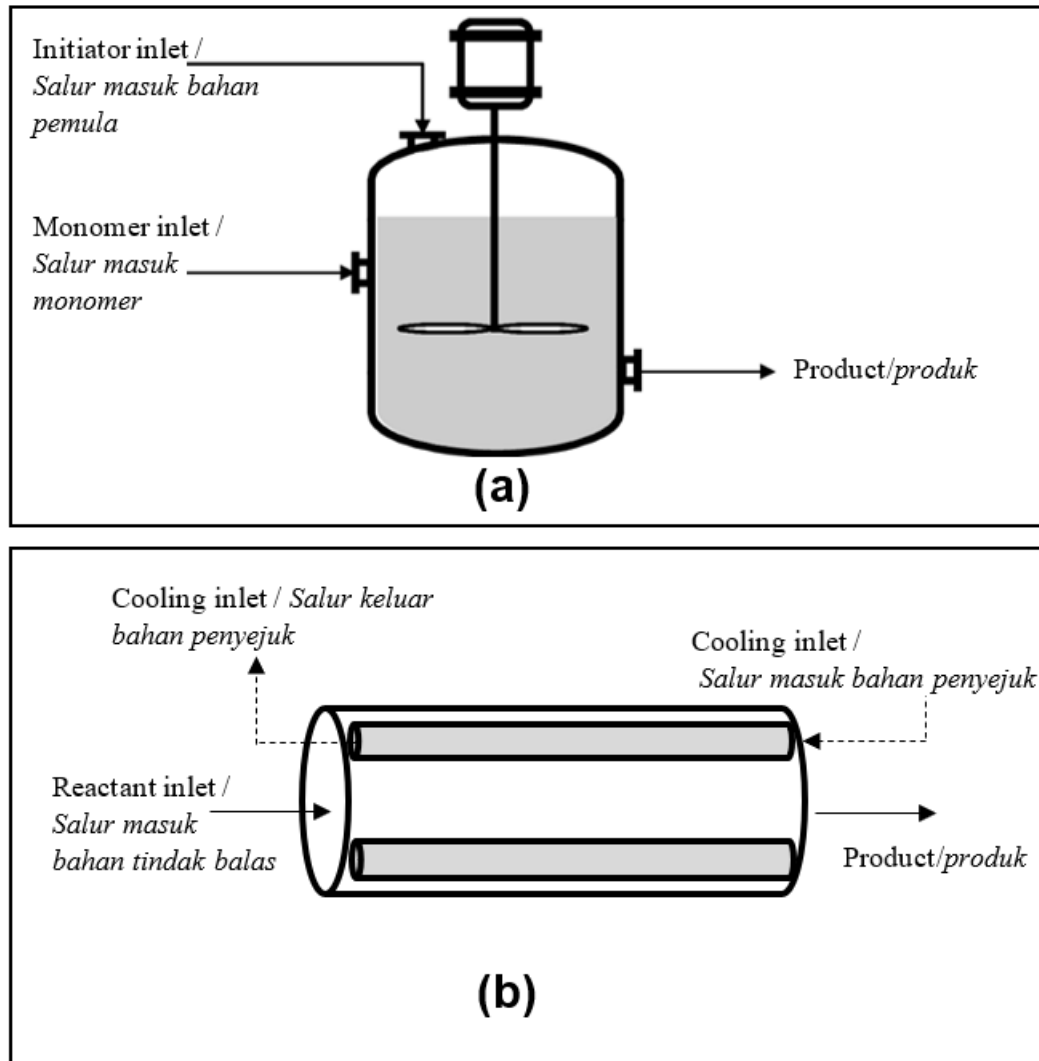

Figure 3: Polymerization reactors:(a) Current configuration, (b) Proposed configuration.
- (3). Figure 3(a) illustrates a polymerization reactor setup featuring a vessel with inlets for monomer, solvent, and initiator streams and an outlet for product removal. The process operates at 160°C for a total of 5 hours. However, the system experienced frequent temperature surges due to an uncontrolled exothermic reaction, posing risks of excessive thermal. To address this issue, a new setup has been proposed, as shown in Figure 3(b), utilizing a different type of reactor with some additional setup to regulate the temperature throughout the reaction process.
- (a). Identify and define the types of reactors illustrated in Figures 3(a) and (b).
- (b). Discuss the modifications made in the new setup shown in Figure 3(b) and explain how it could mitigate the risk of excessive exothermic reactions.